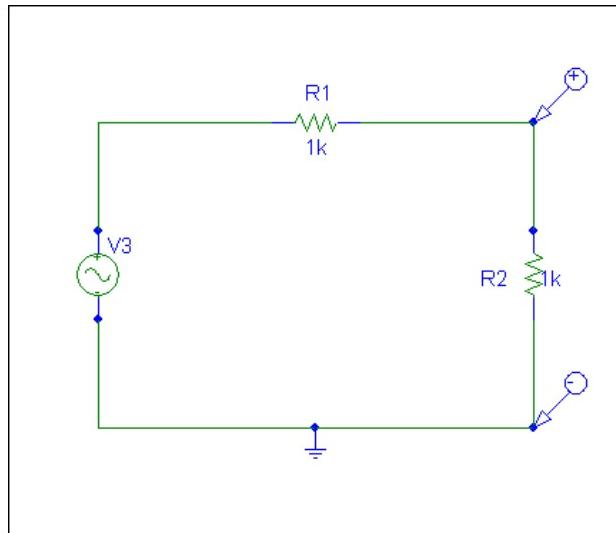

Figure 5.9
2. Simulate the circuit in Figure 5.9. Notice that the input source is no longer DC. Instead we will use an alternating source (AC) voltage. Display both input and output voltages plots on the same graph. Do this for both a sinusoidal input ( $V_{sin}$ ) source as well as for a square wave ( $V_{pulse}$ ) source. Below are the parameters you need to set the sources to. You may change a source's or any parts par parameters by double clicking on the part.